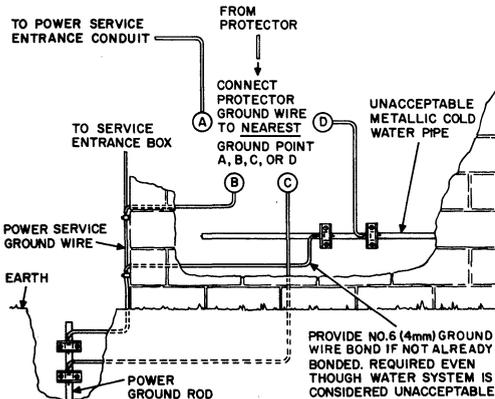
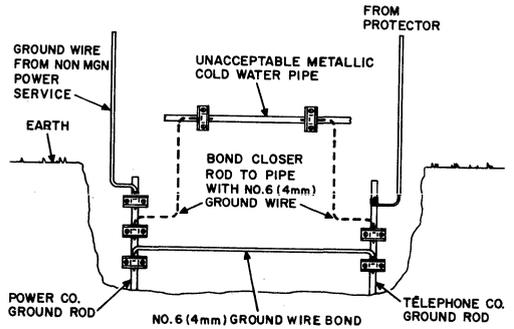

Fig. 48—Unacceptable Water System or Building Ground (Multigrounded Neutral Power System Grounded to Ground Rod)
Fig. 49—Unacceptable Water System or Building Ground (Nonmultigrounded Neutral Power System Grounded to Ground Rod)
6.06 Where the power is grounded to a ground rod and an acceptable water pipe or building ground does not exist, it is necessary to know if the power service is MGN (multigrounded neutral). This information should be obtained according to local instructions. Station protectors installed where an MGN power system is grounded to a ground rod should be grounded as shown in Fig. 48. Where a non-MGN power system is grounded to a ground rod, protectors should be grounded as shown in Fig. 49.